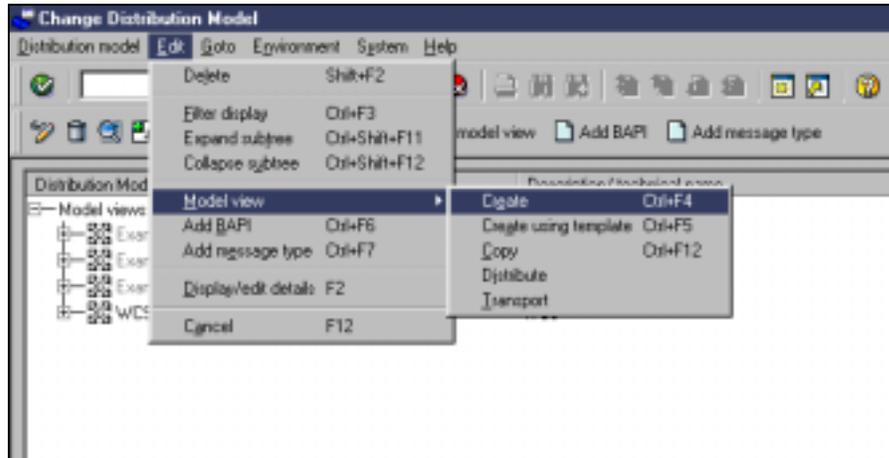

Figure 54: Preparing to create a new model
1. Go to transaction BD64 and prepare to create a new model, as shown in Figure 54.